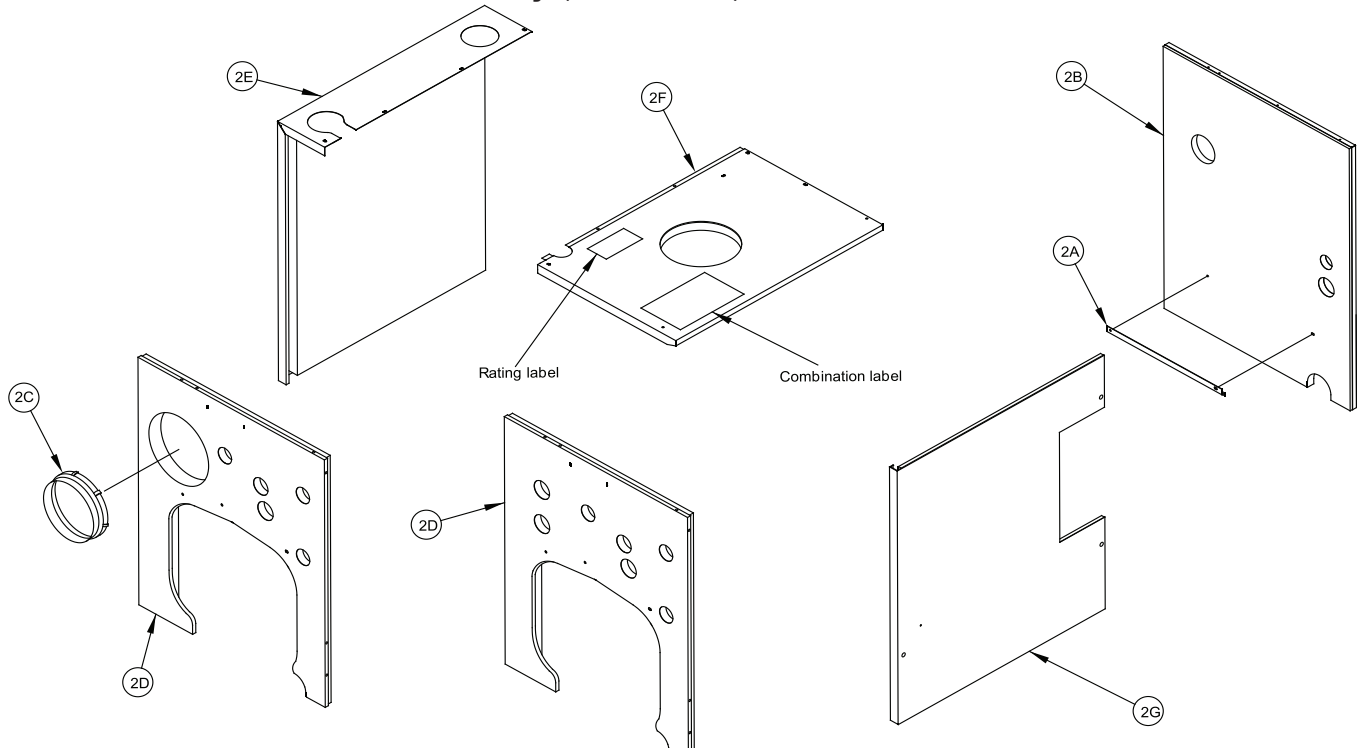

Figure 6: Knockdown Boiler Jacket Assembly
I. INSTALL BOILER JACKET. (See Figure 6).
2. Install jacket rear panel support bracket. (See Figure 6, Item 2A). Align bracket with two (2) 5/16”-18 tapped holes in rear section and secure with two (2) 5/16”-18 x 1/2” long cap screws.
3. Install jacket rear panel. (See Figure 6, Item 2B). Align holes in jacket rear panel and support bracket. Secure with two (2) #8 x 1/2” long sheet metal screws.
- a. Install black plastic collar extension to jacket front panels for 7-13/16” diameter tankless heater opening. (See Figure 6, Items 2C and 2D). Engage two (2) of the collar retaining tabs over raw edge of jacket opening. Provide support behind the panel with one hand while applying pressure on collar to snap each tab over edge of opening until all eight (8) tabs are securing collar.
- b. Install jacket front panel. Locate two (2) 11/32” diameter holes, one round, one obround, on front panel approximately 16” up from the bottom of the panel. Align these holes with the similarly located 5/16”-18 tappings on the front section. Secure with two (2) 5/16”-18 x 1/2” long cap screws.
5. Install jacket left side panel. (See Figure 6, Item 2E). Fold panel at perforation keeping insulation inward. Align left side panel mounting holes with the front and rear panel holes. Secure with #8 x 1/2" long sheet metal screws.
6. Install jacket top panel. (See Figure 6, Item 2F). Place jacket top panel on boiler and secure to front, rear and left side panels with #8 x 1/2" long sheet metal screws.
7. Install jacket right side access panel. (See Figure 6, Item 2G). Align right side panel mounting holes with front and rear panel holes. Secure with #8 x 1/2" long sheet metal screws.
- a. Locate both the Rating Label and Combination Warning Label (P/N 102801-03). Remove paper backing from the labels and apply to the jacket top panel in approximate locations shown in (Figure 6, Item 2F).
- b. On steam boilers only; locate Lowest Permissible Water Level Plate (P/N 81460009 shipped in Steam Trim Carton). Align plate with two 1/8" diameter holes located near the front edge; in line with the lower sight glass tapping, of the jacket right side access panel. Attach plate with two (2) #8 x 1/2" long sheet metal screws. (See Figure 6, Item 2G).